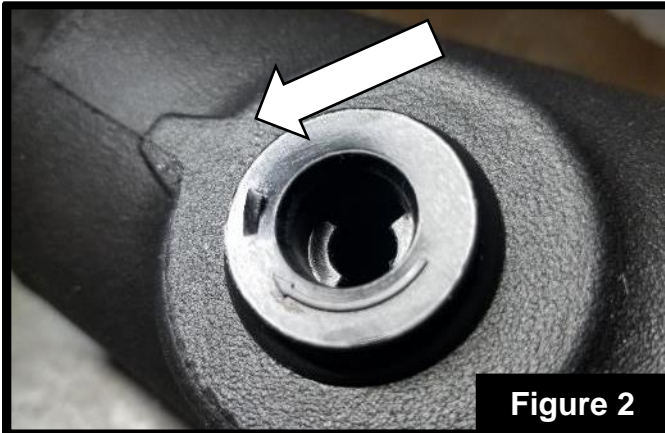

Figure 1
Step 13: Remove the two (2) bolts on the factory housing. Keep bolts for later use. **See figure 1.**
Step 17: Transfer the three (3) factory grommets from the factory housing onto the aFe POWER housing.
**Refer to Figure 1 for Step 18**